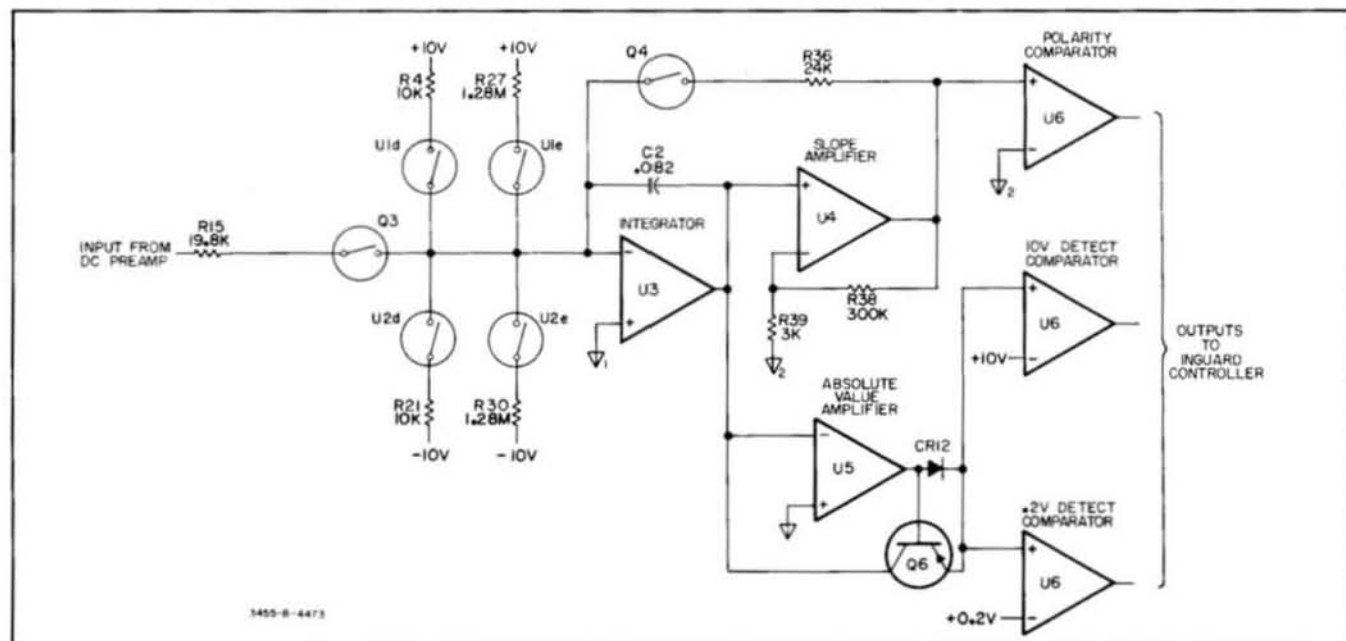

Figure 8-29. Simplified A/D Converter Diagram.
**8-96. Integrator.** The voltmeter uses a conventional integrator circuit with a dual FET input stage for isolation. Operational amplifier U3 provides the gain necessary to keep the input voltage at 0 V (see Figure 8-29).